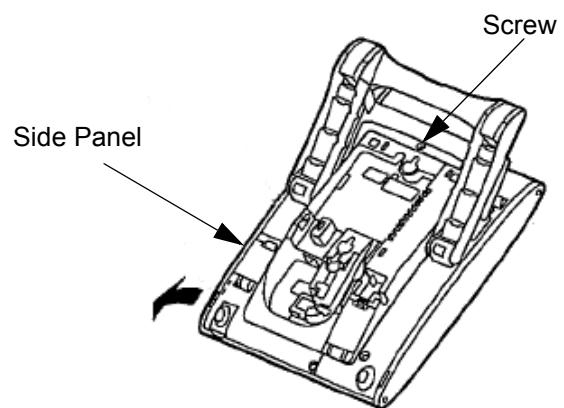

Figure 5-90 Remove Side Panel from Multiline Terminal
3. Remove the screw (refer to Figure 5-90 Remove Side Panel from Multiline Terminal on page 5-88).